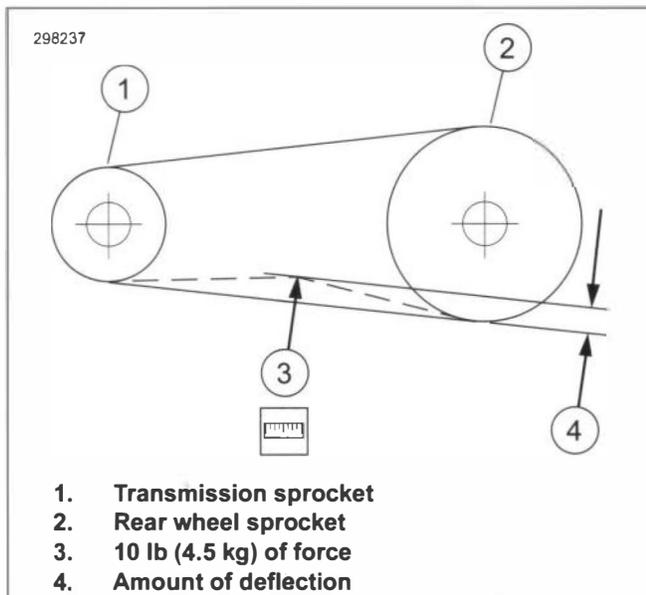

Figure 2-28. Checking Belt Deflection
- a. Slide O-ring (4) to zero mark (3).
- b. Fit belt cradle (2) against bottom of drive belt halfway between drive pulleys.
- c. Press upward on knob (6) until O-ring slides down to 10 lb (4.54 kg) mark (5) and hold steady.
4. See Figure 2-28. Measure amount of deflection (4) while holding gauge steady.